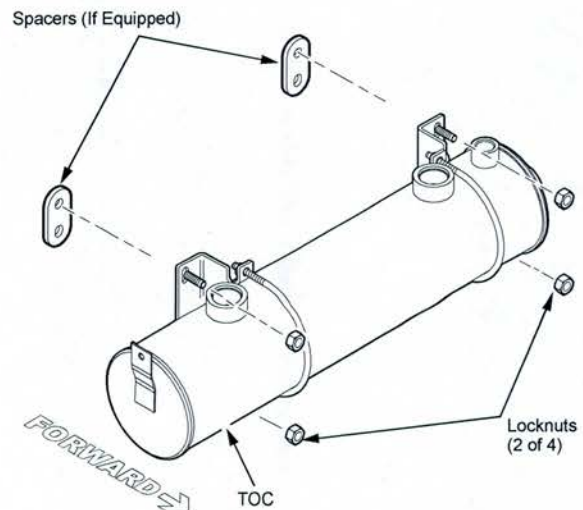

Figure 6
11. Remove the 4 fasteners securing the TOC to the cross member and discard the fasteners (see Figure 6).
Note: If equipped with spacers, set the spacers aside for reinstallation and discard the fasteners (see Figure 6).